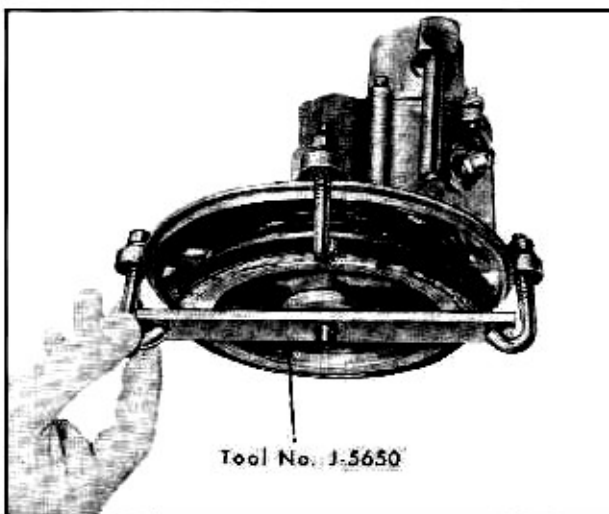

Fig. 9-3 Installing Retaining Strap
6. Compress the piston spring by pressing down on the end plate and install the Vacuum Piston Retaining Strap, Tool No. J-5650, under opposite hook bolts as shown in Fig. 9-3.